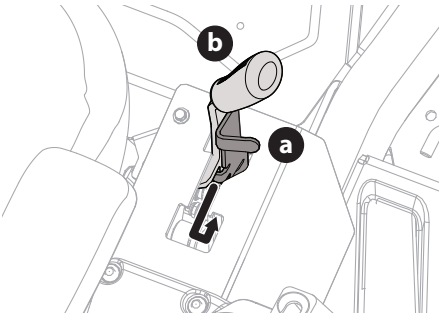

Figure 1
1. To engage the transmission bypass, pull the transmission bypass lever (a) located to the right of the operator's seat (next to the park brake lever (b)), back and into the notch on the right side of the slot (Figure 1).